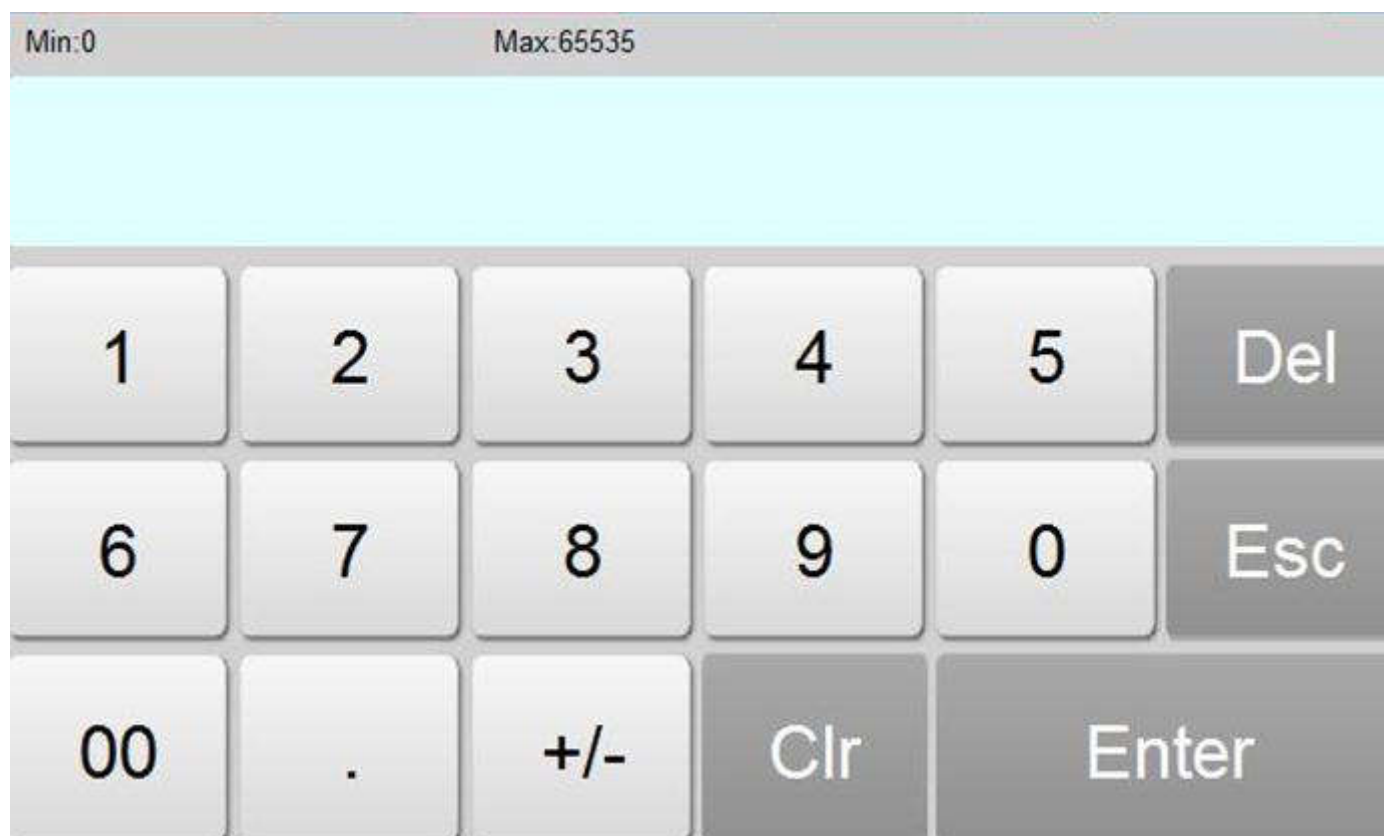

Figure 4-86 Keyboard
- Keyboard input: Three options in the "State Type" can be selected. In the simulation or screen, when click the control, it will pop up a keyboard for user to enter the value, as shown in Figure 4-86: